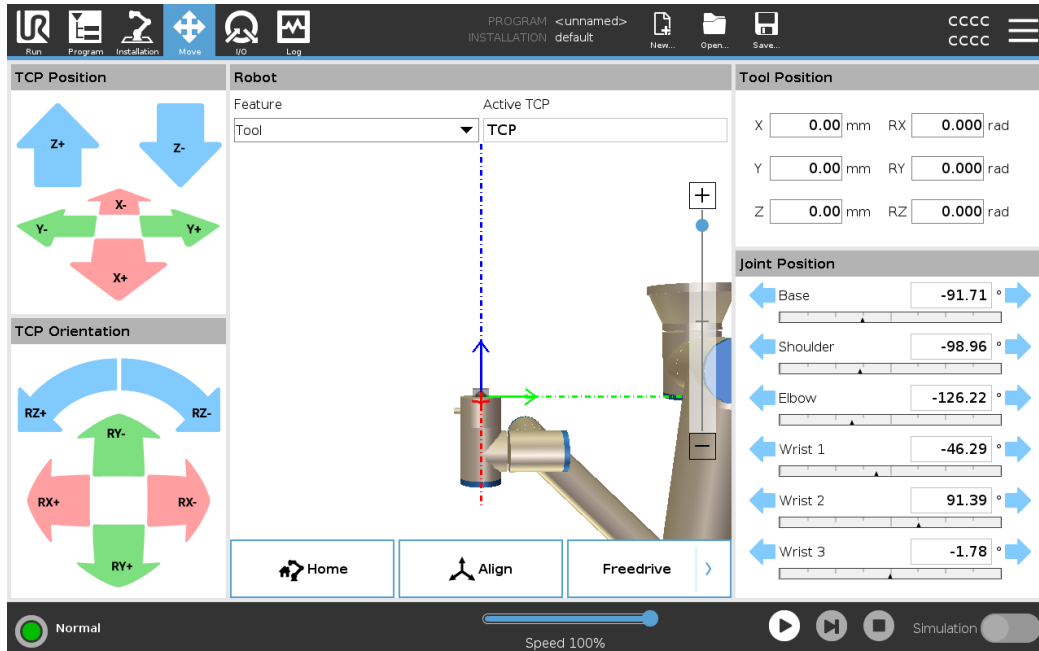

Figure 5.17 – Tool Feature Z Axis Movement
11. Return to **View Feature**. Put the robot in the pose shown in Figure 5.17. Move the robot in the Z+ and Z- directions. Switch to the **Tool Feature** and move up and down in the Z direction. The **Tool Feature** is useful for programming the loading and unloading of parts into machines at angles.